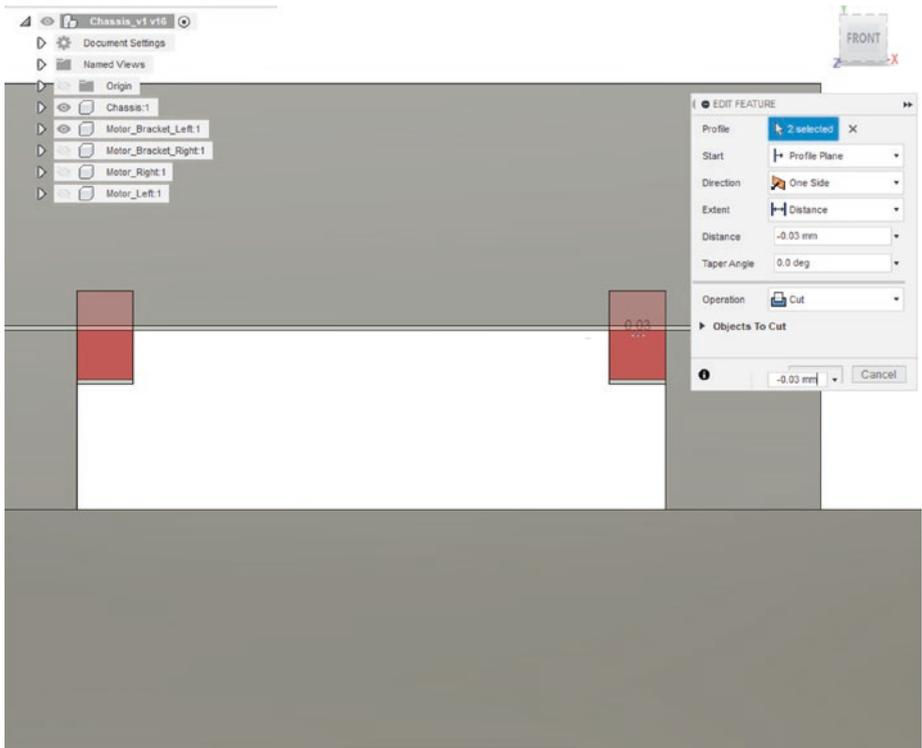

Figure 6-68. Cut 0.03mm from the front brace of the motor bracket
39. Extrude 0.03mm of plastic from the back of the two braces at the front of the motor bracket. See Figure 6-68. If you need to hide the motor and chassis, that is fine.